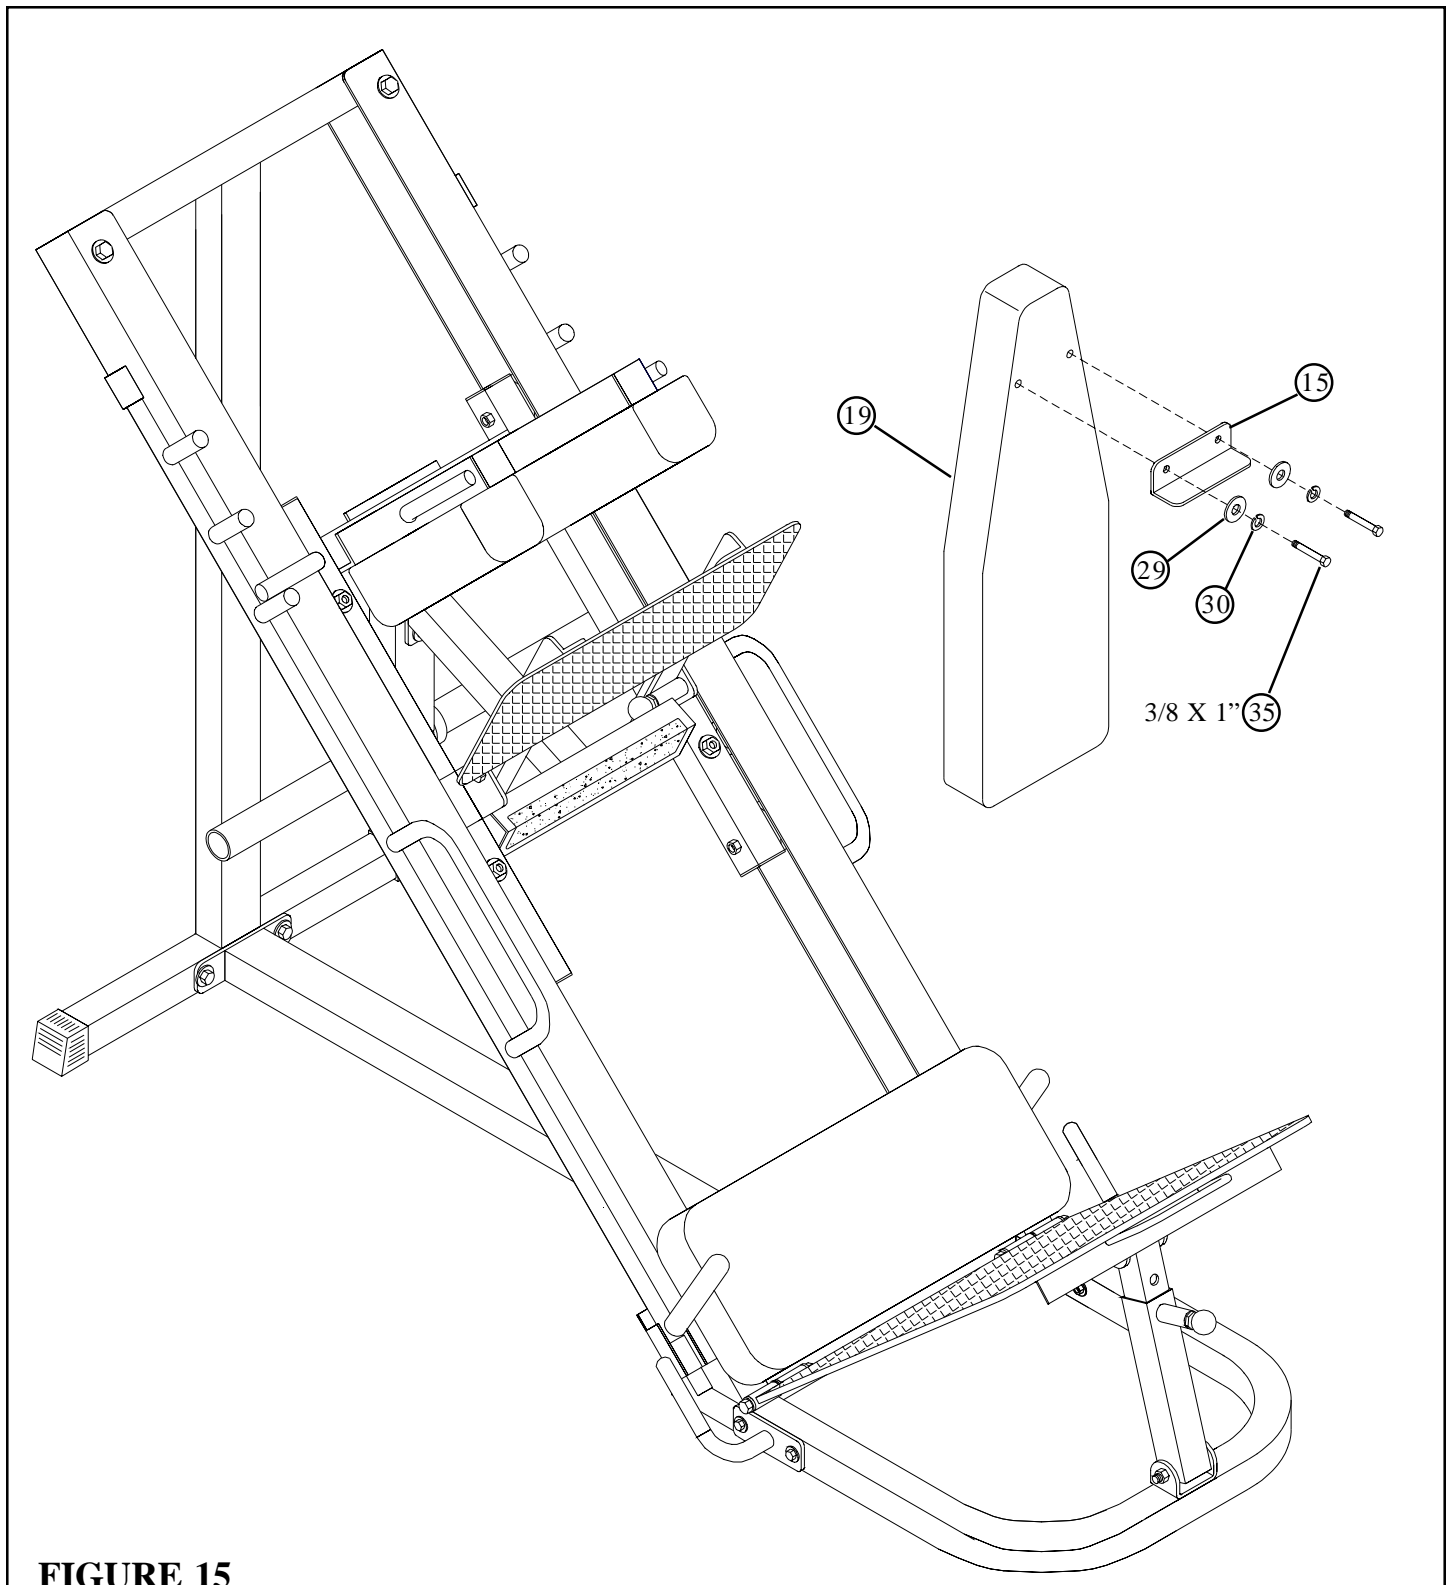

FIGURE 15
- **SECURELY** assemble the PAD STOP (15) to the BACK PAD (19) as shown in FIGURE 15 using two 3/8 X 1" BOLTS (35), two 3/8" LOCK WASHERS (30), and two 3/8" WASHERS (29).